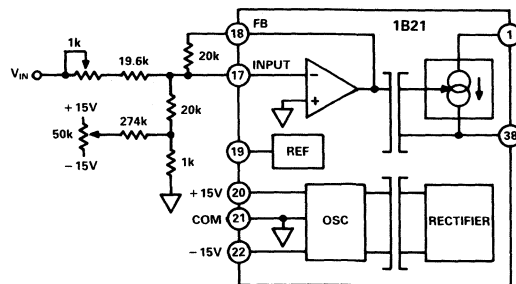

Figure 2. Offset and Span Adjustment
**Adjustments:** Figure 2 is an example of using potentiometers for trimming gain and offset for a 0-5V input and 0 to 20mA output. The network for offset adjustment keeps the resistors relatively small to minimize noise effects while giving a sensitivity of ±1% of span. For more adjustment range, resistors smaller than 274k can be used. Resistor values from Table I can be substituted for other input and output ranges.